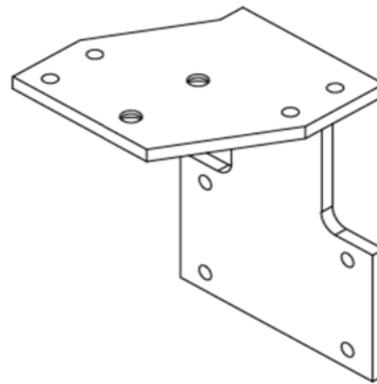

Figure 3: C-clip twist clip
2. Preload C-clip to SP-037 at header (see fig. 3).